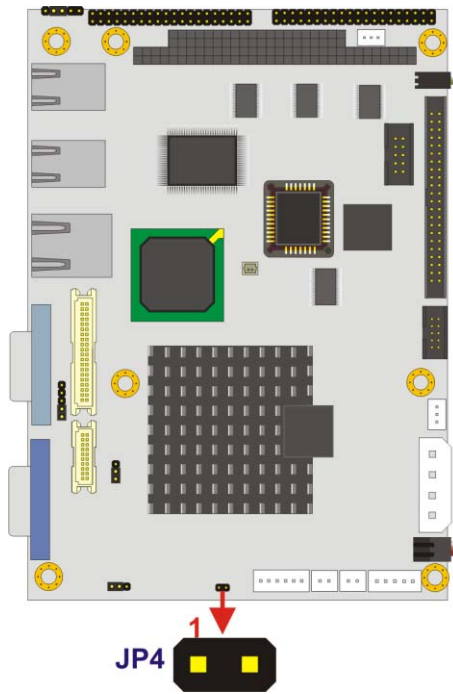

Figure 5-3: AT Power Select Jumper Location
- Jumper Location:** See **Figure 5-3**
The location of the AT Power Select jumper is shown in **Figure 5-3** below.